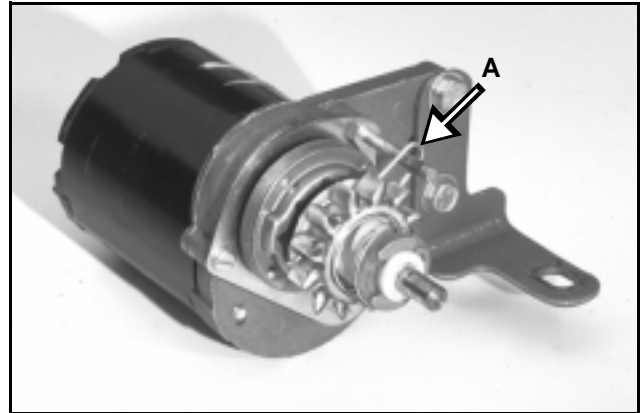

Figure 102
5. Reassemble pinion/clutch assembly. Apply a small amount of Lawn-Boy "AX" grease to the pin. Slide the assembly on to the pin with the drag spring (A) over the stud. (See Figure 102.)